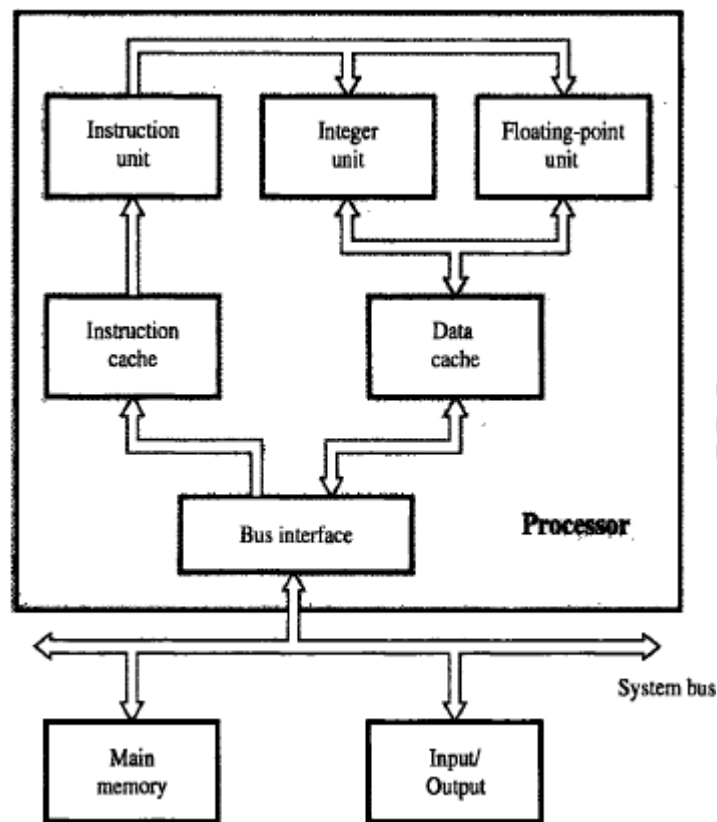

Figure 7.14 Block diagram of a complete processor.
**Integer Unit** □ → To process integer data. (Figure 7.14).